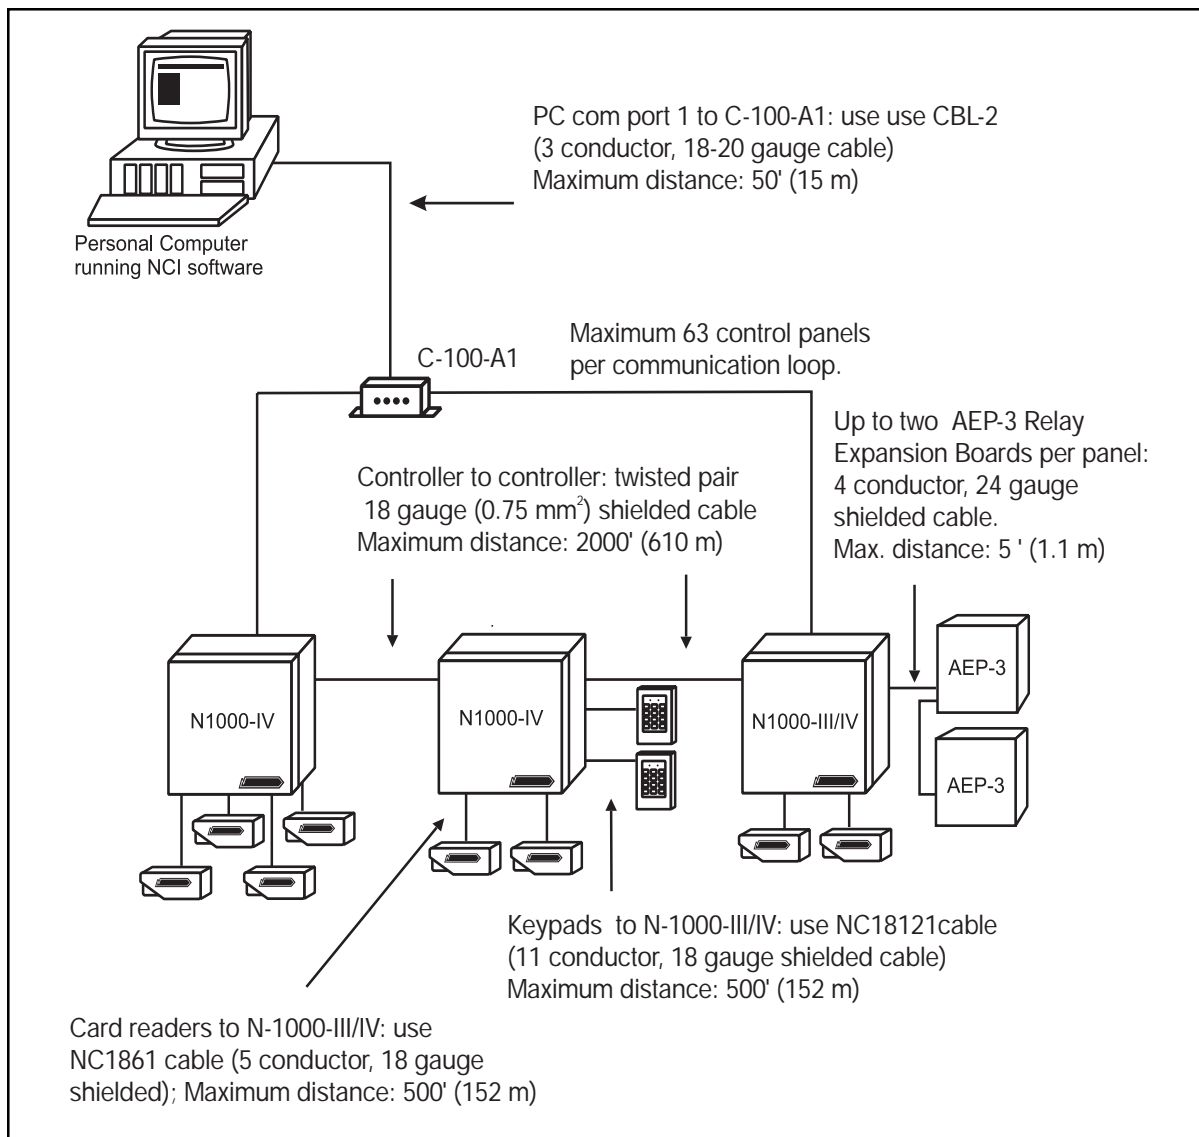

Figure 6-6. **Typical 20 mA Communication Loop.** See Figure 6-10 for AEP-3 connections.
Cable CBL-2 (three conductor, 18-20 gauge) is recommended for use between the PC and the C-100-A1 Converter. This enables the C-100-A1 to be located up to 50 feet (15 m) away from the CPU (See Figure 6-6).
- Last panel in communication loop to C-100-A1. (See Figure 6-6.)